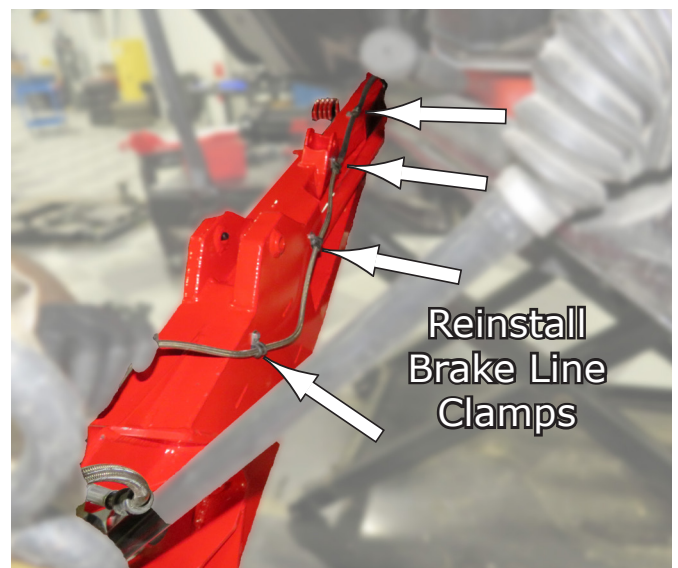

Fig.11b
12. Then, reinstall all the Brake Line Clamps using your existing hardware as shown in Fig.11b.